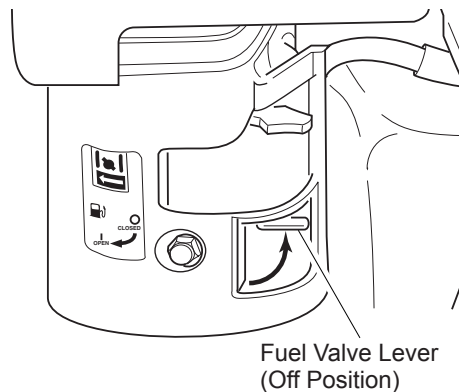

Figure 19 - Fuel Valve Lever Off (Model MGR4500I Shown)
4. Turn fuel valve lever off except on Model MGR6000I. Do this by moving valve lever fully to the left (see Figure 19).